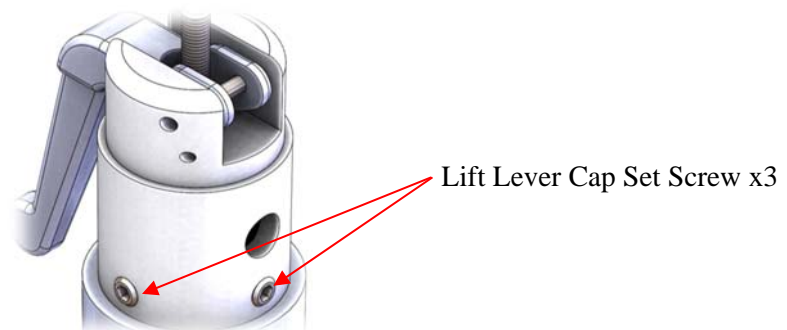

Figure 34: Lift Lever Cap Set Screws
4. Loosen the three lift lever cap set screws. See Figure 34. These must be unscrewed enough so that they no longer engage the lift lever lock nut.